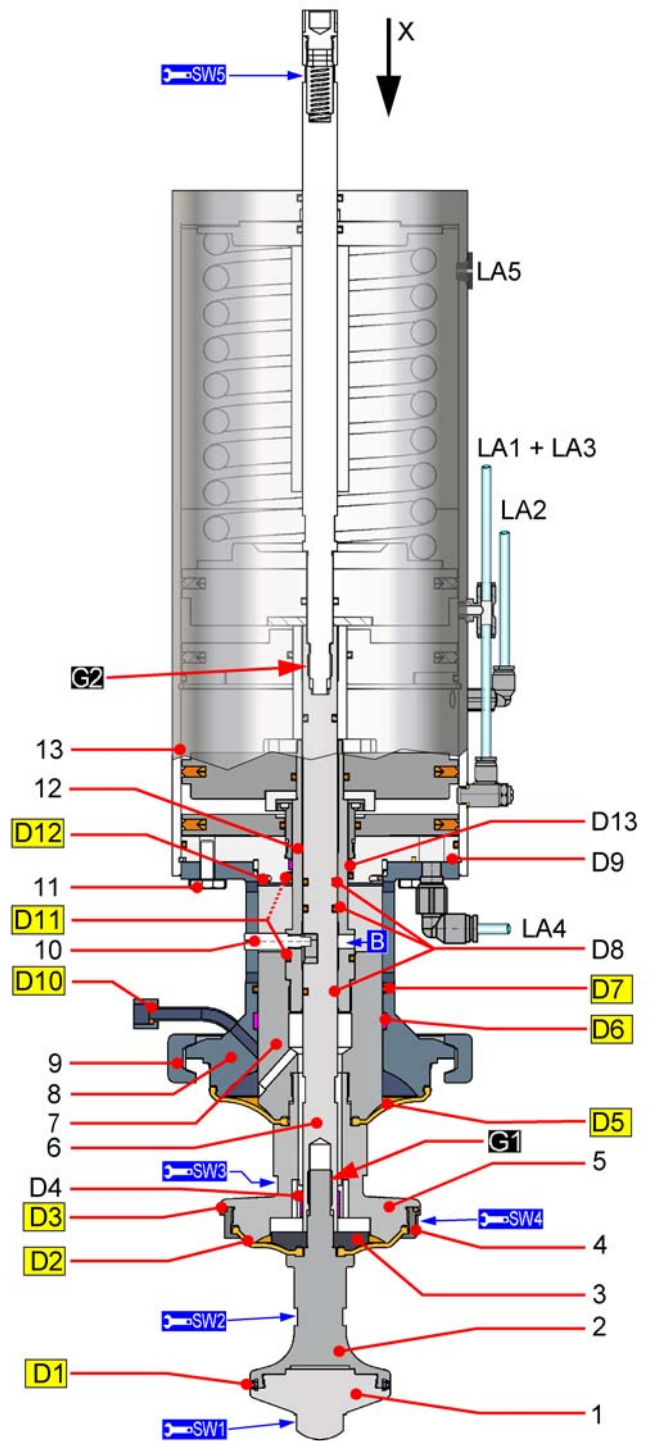

Fig. 6
- Apply hexagon screws (11) only in order to avoid tensions while piston (7) is built in.
- Screw in piston (7) in piston rod (12) until metallic stop position while holding against drilling (B2) by means of a round bar steel.
- Screw in lower piston (2) in spindle (6).
- Centre spindle (6), piston rod (12) and lantern (8) so that the groove in the spindle (6) and the thread in the piston rod (12) are on top of each other. (fig. 6 /page 12)
- Now, screw in set screw (10).
- Pull tight hexagon screws (11).
- Connect control air to (LA4), piston plate upper (5) is clocked.
- Put diaphragm (D5) on lantern (8).
11.6 Assemble valve insert in the housing (VG)
- Before mounting the valve insert into the housing (VG), connect control air to (LA4), piston plate upper (5) is clocked.
- Build in complete valve insert in housing (VG).
- Mount and pull tight retaining clamp (9). Note turning moment (See technical data)